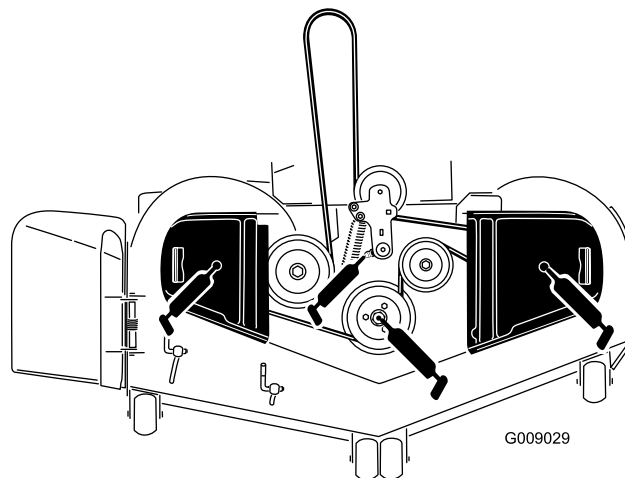

Figure 44
3. Grease the mower deck idler pulley pivot until grease come out the bottom (Figure 44).
4. Grease the fittings on the top of the 3 spindle bearings until grease come out (Figure 44).
5. Grease the drive belt idler arm (Figure 44).